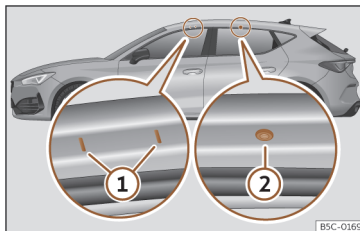

Fig. 136 Mounting points for the roof bars for the roof rack (Leon).
The front and rear attachment points ① and ② are only visible when the doors are open >>> **Fig. 136**.